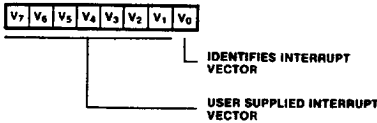

Figure 8: PIO Interrupt Vector Word
**Interrupt Vector Word (Figure 8).** The PIO logic unit is designed to work with the Z80 CPU in interrupt Mode 2. This word must be programmed if interrupts are to be used and bit D0 must be a zero.